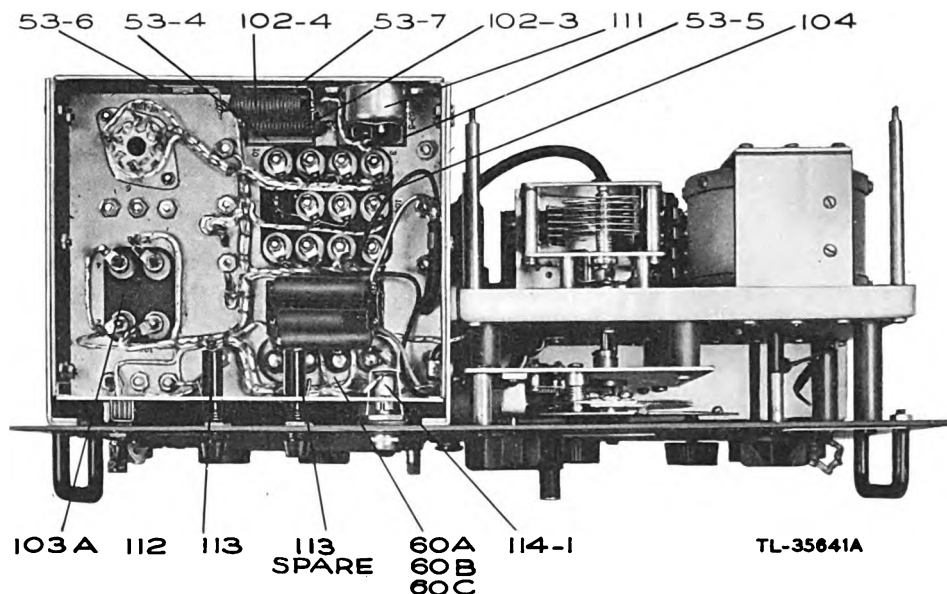

Figure 13. Signal Generator I-222-A, bottom view.
(4) Remove the high-low frequency oscillator assembly and turn the unit over so that it rests on the handles. Remove the four knurled thumbnuts from the cover of the high-low frequency oscillator assembly. Unsolder the white wire with green tracer at the terminal of resistor 16 (fig. 28). Unsolder the white and black rubber covered conductors and the shielded braid of the rubber covered cable coming from the high-low frequency oscillator. Unsolder the white wire with black tracer from terminal 7 of transformer 104. Remove the clamp holding the black rubber covered cable to the power supply chassis (fig. 13). Turn the unit up